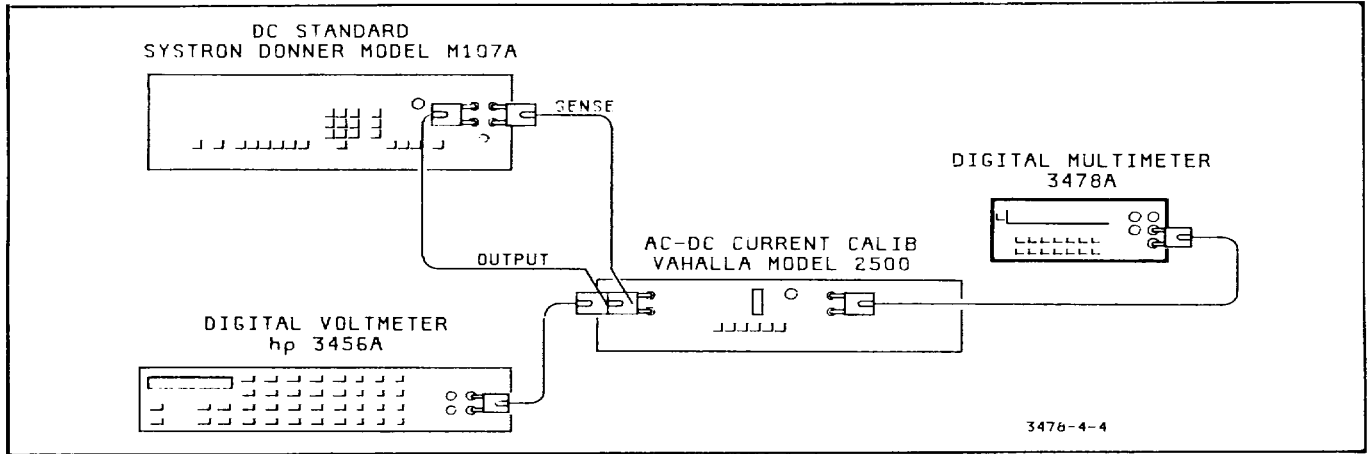

Figure 4-4. DC Current Accuracy Test and Calibration
- i. Connect the DC Volts Standard and Dig Voltmeter to the AC-DC Current Calibrator as shown in Figure 4-4.